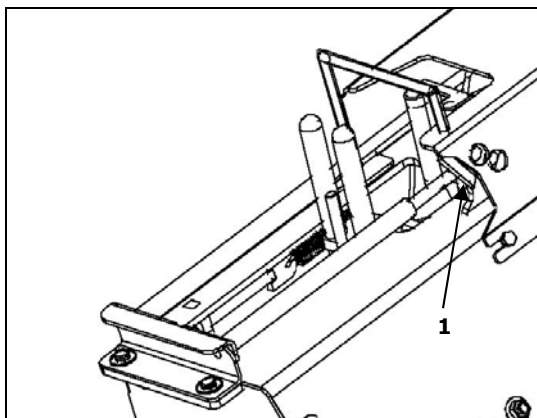

Figure 4.4 Plastic film cutter blade
First check the condition of the stainless steel blade (1) in the diagram of (Figure 4.4) and change it as necessary.